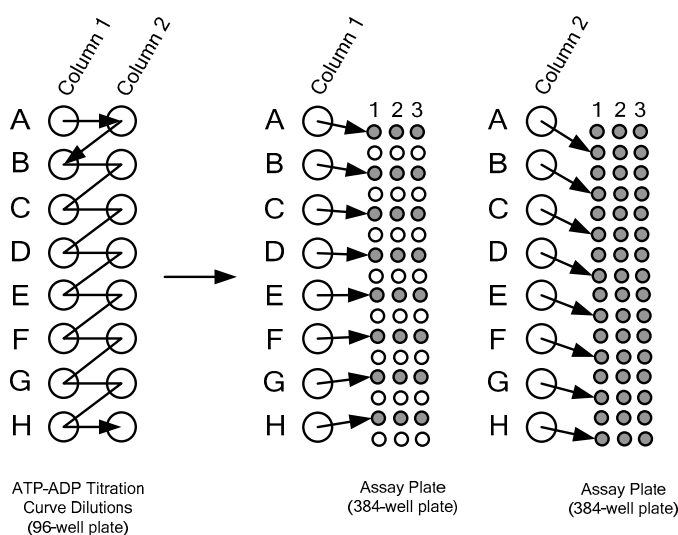

Figure 8. Diagram showing preparation of an ATP-ADP titration curve in a 96-well plate followed by transfer to a 384-well plate.
For ease of preparation, an ATP-ADP titration curve can be prepared in a 96-well plate and then transferred to the respective wells of a 384-well plate. The serial dilutions are “staggered” between columns of a 96-well plate and then transferred to the 384-well plate, as shown in Figure 8. To prepare a titration curve:
3. Transfer 200 μL of solution from well A-1 to well A-2 and mix thoroughly. Next, transfer 200 μL of solution from well A-2 to well B-1 and mix thoroughly. Repeat this process for all remaining wells, discarding 200 μL of reagent from the final well (see Figure 8).
- Using a multi-channel pipette, transfer 10 μL of the ATP-ADP titration curve in the 96-well plate to the respective wells of a 384-well plate as shown in Figure 8. Reagent from column 1 of the 96-well plate is placed in rows 1, 3, 5, etc. of the 384-well plate, and reagent from column 2 of the 96-well plate is placed in alternate rows (2, 4, 6, etc.) of the 384-well plate.